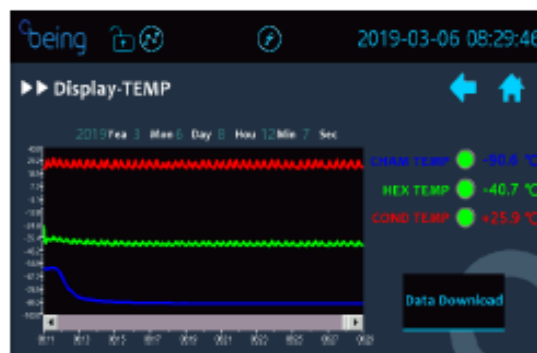

Figure 1-28.
3. Touch the "Temp Log" button from the display page to enter the temperature log page, as shown in Figure 1-28.